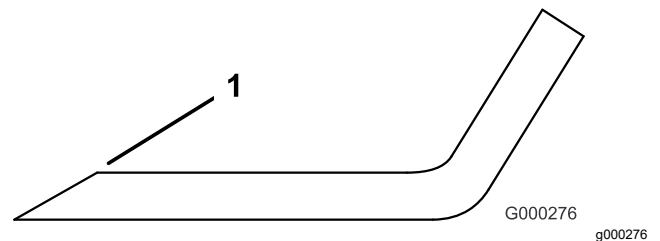

Figure 25
4. Examine the cutting edges of all of the blades and sharpen the cutting edges if they are dull or nicked (**Figure 25**).
Note: Sharpen only the top of the cutting edge and maintain the original cutting angle to ensure sharpness (**Figure 25**). The blade remains balanced if the same amount of metal is removed from both cutting edges.